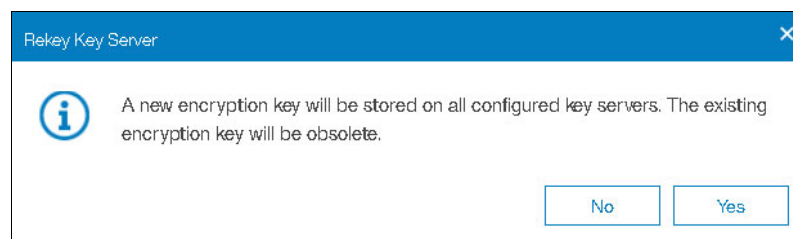

Figure 7-63 Rekey Key Server confirmation message
2. Click **Yes** in the message window. The encryption key is generated by the primary key server and copied to the primary key server only. Ignore the GUI message that the encryption key is stored on all key server (see Figure 7-63).